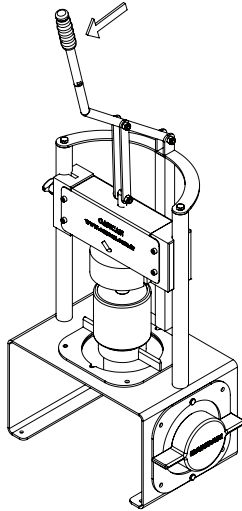

Figure 5
- Cut the two-end parts of the pineapple and place the cutted pineapple on the blade. **(Figure5)**